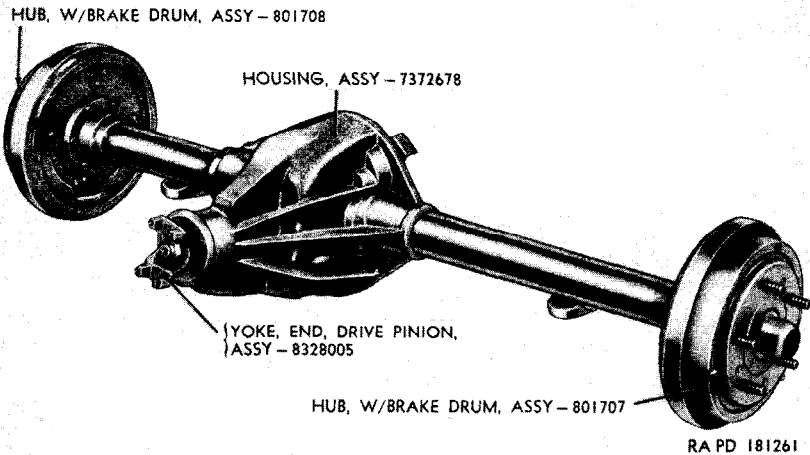

Figure 125. Rear axle assembly.
a. General. The rear axle assembly (fig. 125) is composed of the housing assembly, differential assembly, axle shaft, yoke assembly, brake assembly, and the rear hub with brake drum assembly. The rear axle is a semifloating type using hypoid gears.
a. The following procedures are based on the assumption that the rear axle assembly has been removed as a complete component from the vehicle as shown in figure 125 (par. 58).